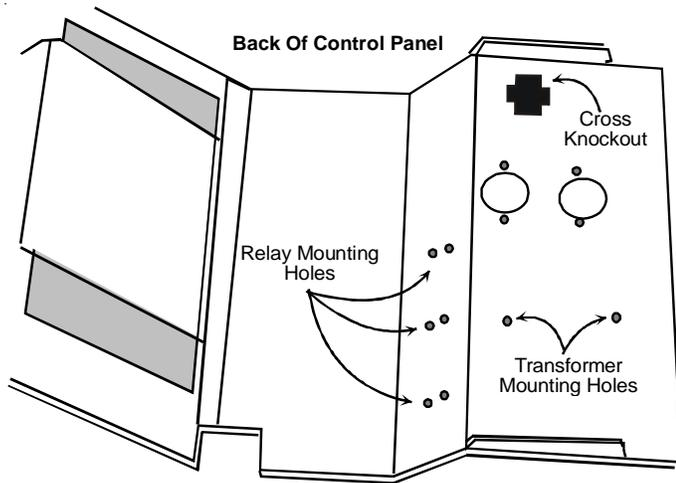

Figure 11
21. Using two #8 screws that are provided, screw the transformer to the control panel in the transformer mounting holes provided in the panel (Figure 11).
22. Mount the relay in one of the three relay mounting holes in the control panel making sure that the threaded stud is in the smaller hole and the metal tab is in the adjacent larger hole. Screw the provided nut onto the threaded stud from the opposite side of the control panel (Figure 11).
- D. Connect the RD (CP) to the original transformer (where WH was connected).
- E. Connect the VT (CP) to the compressor terminal of the control board (where VT was connected).
- F. Connect the YL (CP) to the reversing valve terminal of the control board.
- G. Connect the VT wire from the HPS and the BK CM wire to the piggyback terminal of VT (CP) at the compressor terminal of the control board.
- H. Connect the reversing valve lead wire removed in Step D to the piggyback terminal of YL (CP) at the reversing valve terminal of the control board.
- I. Connect the WH wire from the EM fan motor to the piggy back terminal of RD (CP) on the secondary of the new transformer.
- J. Make sure the OR (CP) wire is connected from the #6 terminal of the relay to 120 volt terminal of the trans-